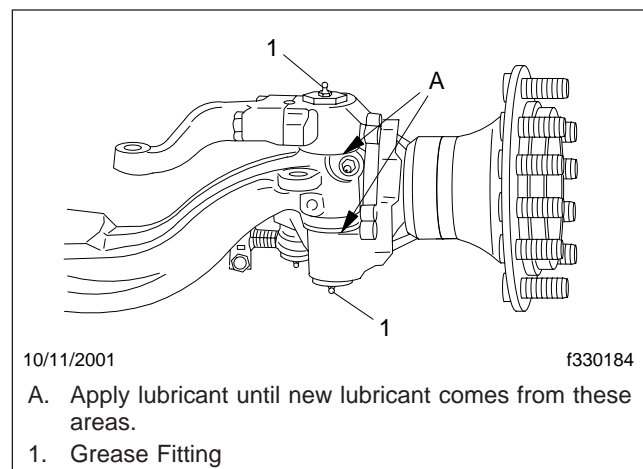

Fig. 3, Sealed, Easy Steer Plus Kingpin Lubrication
- Using a multipurpose grease, NLGI grade 1 or 2, lubricate the kingpins through the grease fittings on the top and bottom of the knuckle. See Fig. 3.
- Force lubricant into the upper and lower kingpin grease fitting caps until new lubricant flows from between the upper axle beam end and the knuckle and between the lower axle beam end and the knuckle. See Fig. 3.